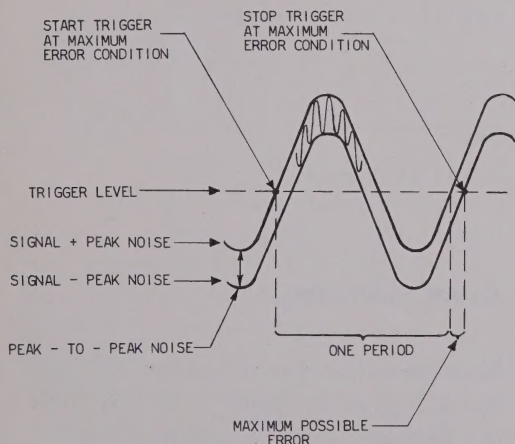

Figure 5 Effect of Noise on Accuracy of Period Measurements
3. Measurements using an external signal to trigger start and stop pulses (i.e. PERIOD, PERIOD x 10, TIM, A/B and A/B x 10) may be subject to a further error caused by pulses which are triggered too soon or too late. Refer to Figure 5 which illustrates what occurs during a simple period measurement.